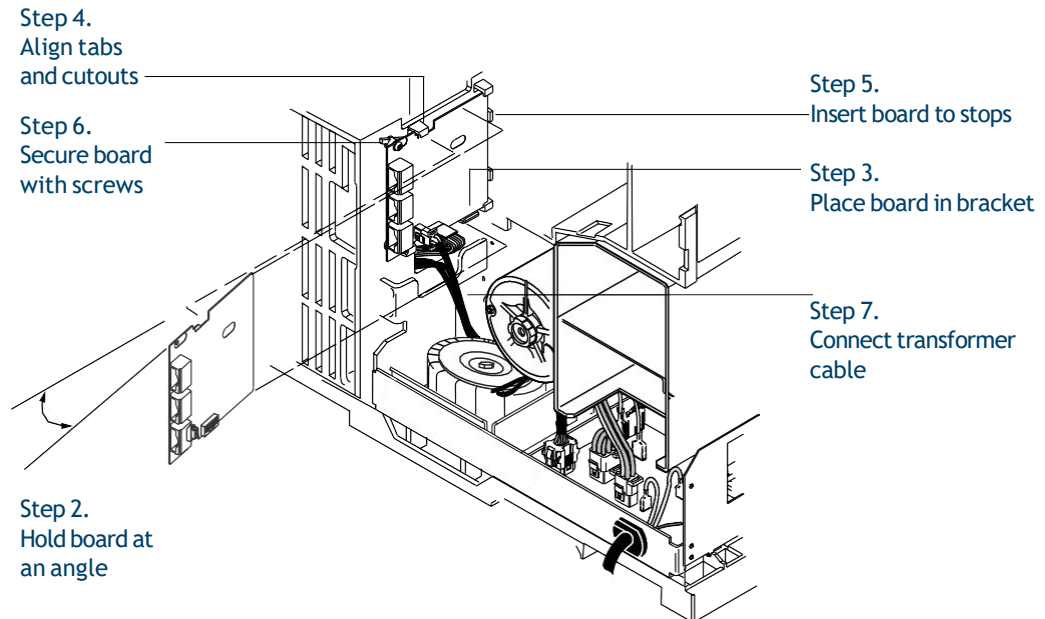
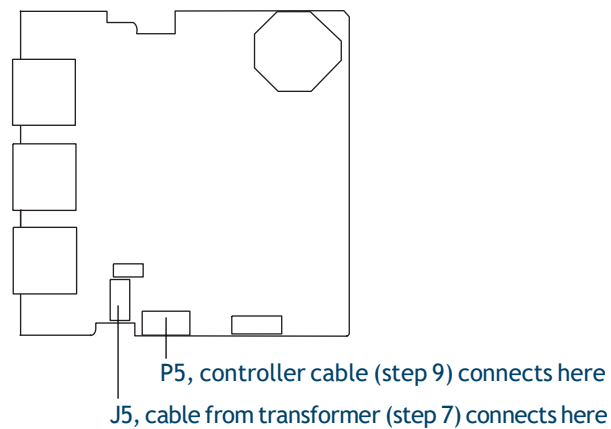
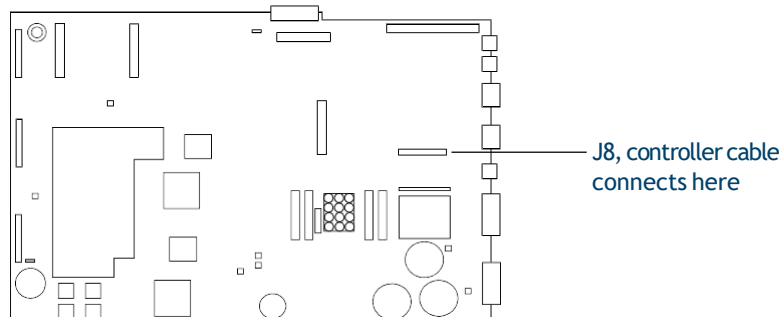

Figure 36. Installing the ALS interface board
Figure 37. ALS interface connectors
Figure 39. GC main board
- 2 Hold the board upright and slightly angled (Figure 36).
- 6 Secure the board to the chassis using two screws. The board should not be stressed or bowed against the locking tab (Figure 36).
- 7 Locate the 2-wire cable leading from the transformer and connect it to the ALS Interface board at J5. (Figure 36 and Figure 37).
- 9 Connect the Controller PCB Cable, part no. G2612-60510, to the main board at J8 and to the ALS Interface board at P5. Route the cable through the cutout in the main board (Figure 37 and Figure 39).